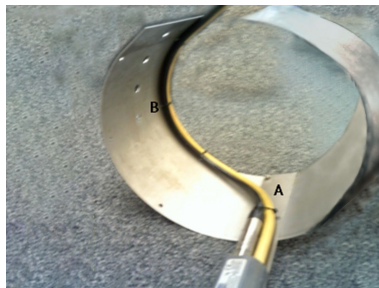

Figure 4: Bending the Cable to the Fixing Ring
4. Bend the cable to the circumference of the fixing ring as shown in Figure 4. Do not bend the cable sharply. Continue to feed the small cable ties through the holes to fit the cable to the trailing edge of the fixing ring